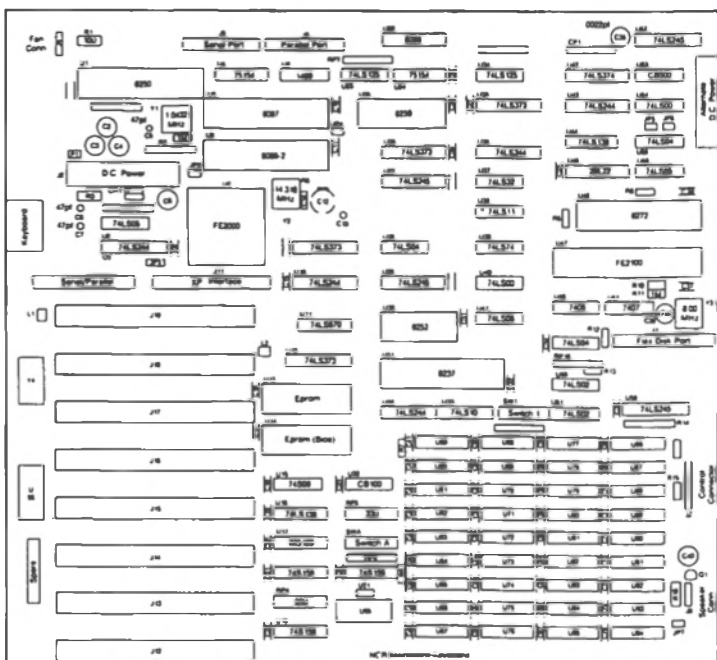
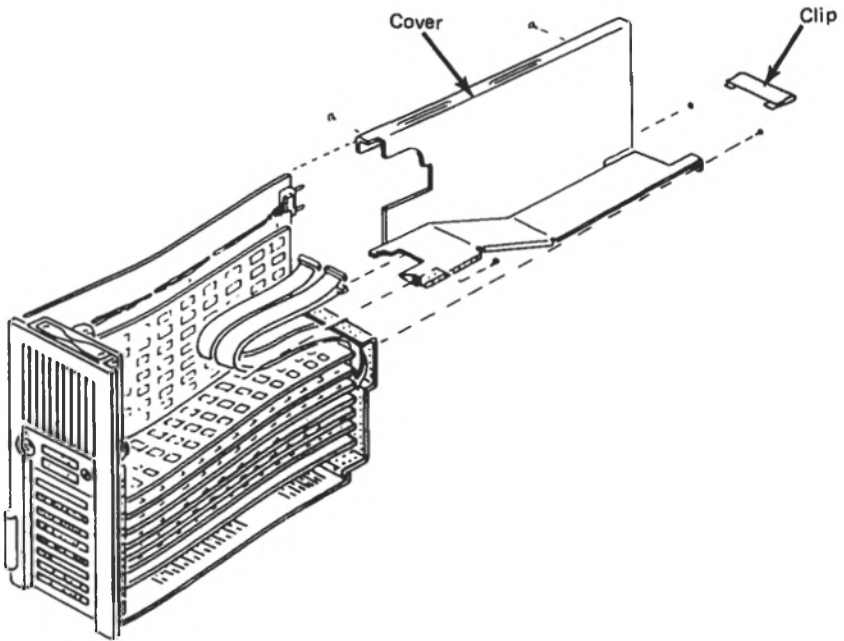

Figure 3-3 Main Processor Board
Figure 3-4 MPB Installed
A layout of the MPB illustrates the location of the switches that may require adjustments when an option is installed (see Figure 3-3). The MPB is mounted vertically in the card rack wall (see Figure 3-4).
**NOTE:** To install the Numeric Coprocessor, it is necessary to remove the cable clip and cover shown in Figure 3-4. The cover is held in position by five screws.